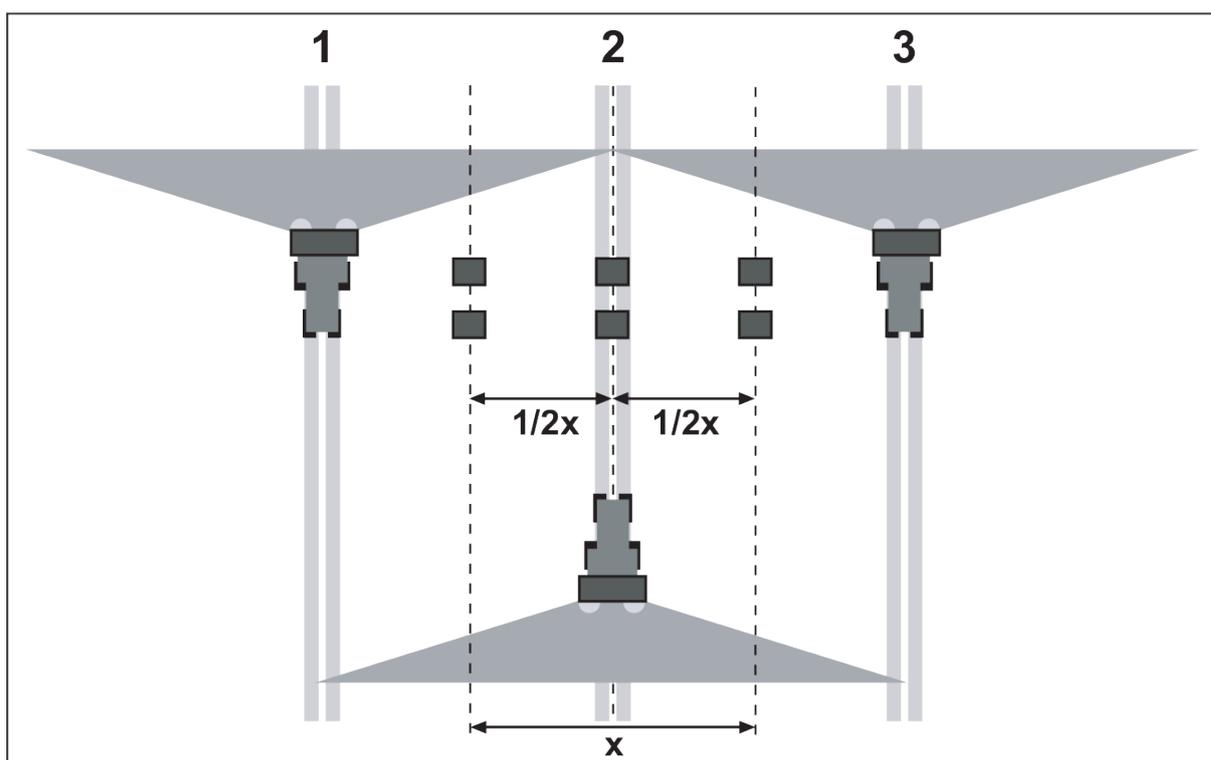

Fig. 33: Layout for three passages
- ▶ Place two collecting vessels one in front of another at a distance of **1 m** in the overlap zones (between the tracks) and in the track (according to Fig. 33)